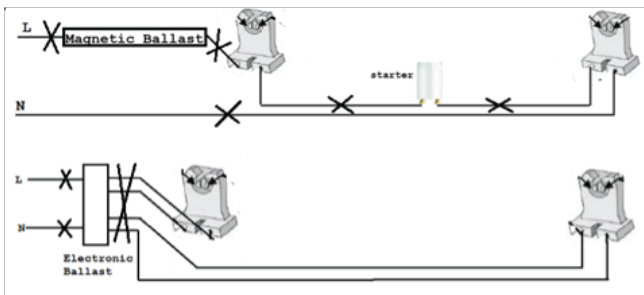

Fig. 2
STEP 2 - Remove reflector and disconnect or remove the fluorescent ballast and Disconnect starter and lamp holders in the existing luminaire, where applicable. See **Fig. 2**. Then go on following steps.